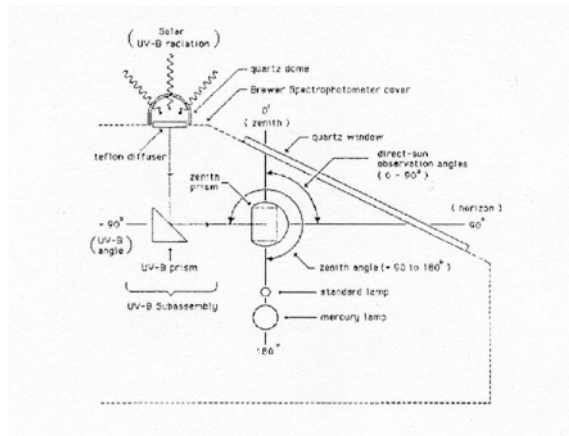

Figure 1: Spectrometer Targets for Various Zenith Angles
5. Locate the zenith prism assembly, which is mounted in the area of the instrument under the quartz window when the outer case is on. Refer to Figure 1 below (Figure 2-3 "Spectrometer Targets for Various Zenith
6. Locate the HG lamp base, inside which the Hg bulb is mounted, directly under the zenith prism, referring to Figure 1. The HG lamp lies in the horizontal plane and is hidden from view inside the zenith prism assembly. Only the base that the bulb is screwed into is visible.